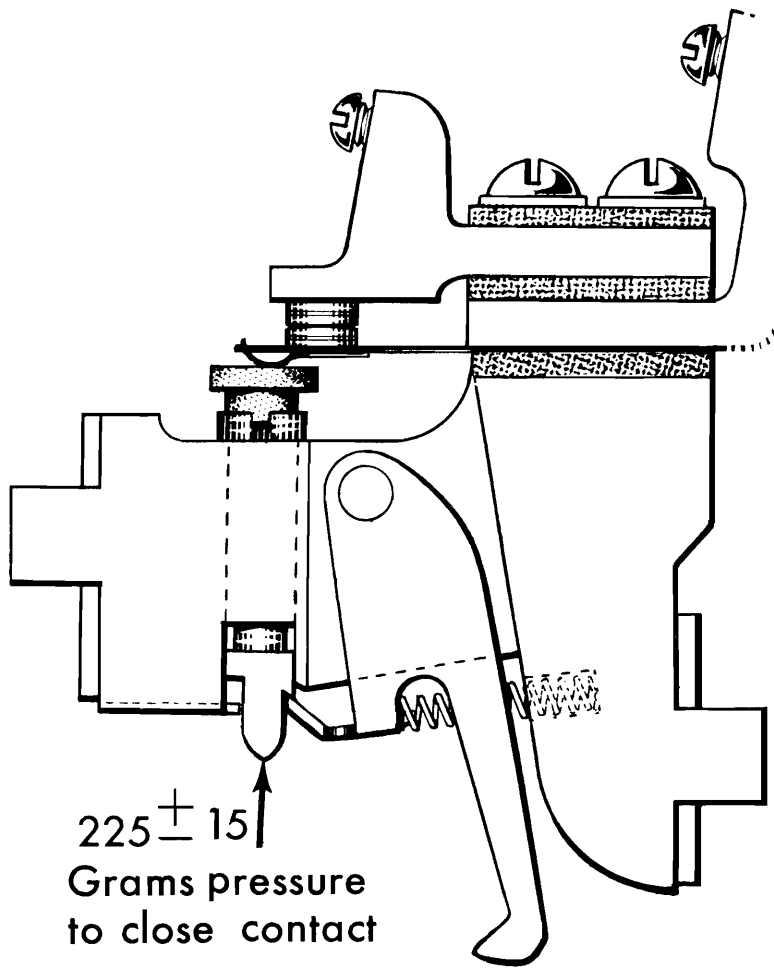

Figure 13. Latching Plunger Circuit Breaker, Adjustment 4
4. Check to be sure that the plunger does not bind (Figure 13). The design of the split bushing is such that the coil spring spreads the bushing to create a drag between the bushing and frame, increasing the pressure required to close the contact from 160 grams (pressure required to compress the spring) to 225 grams (approximately 8 oz.). This friction is used to dampen the rebound when the contact closes. Check to be sure that a maximum of 240 grams applied to the plunger closes the contact.